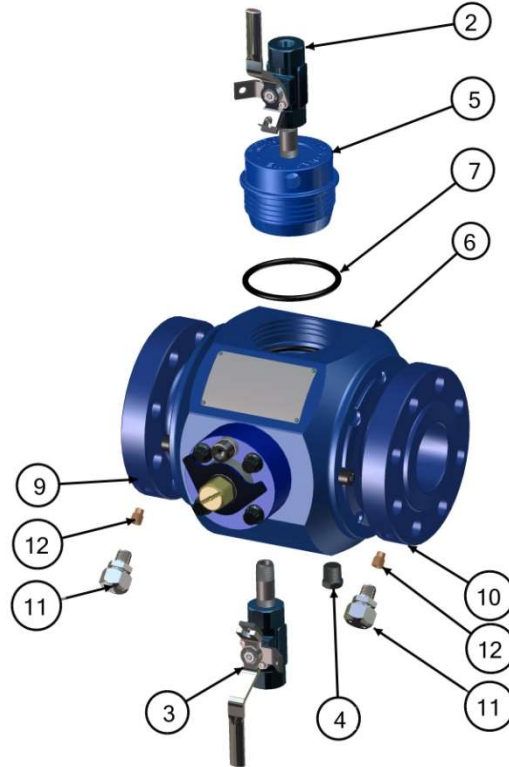

FIGURE 22
- 1) Apply thread sealant to threads of inner check valves (12) (**FIGURE 22**).
- 2) Install the inner check valves into the tailpiece flanges (9) and (10).
- 3) Once pressure testing of the valve is complete, install the button head check valves (11) into the tailpiece flanges using thread sealant.